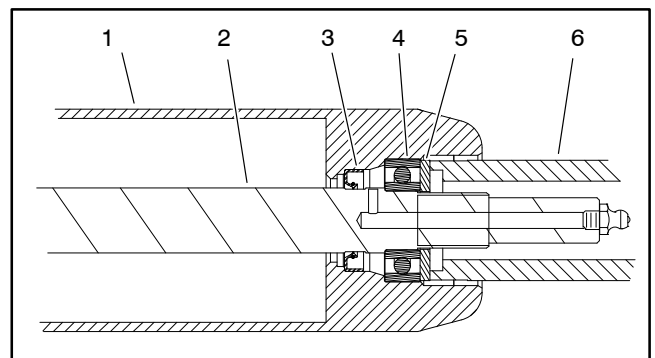

Figure 51
B. Use washer and bearing/outer seal tool (see Special Tools) with a soft face hammer to fully seat bearing (Fig. 51). After bearing installation, make sure that shaft freely rotates and that no binding is detected. If necessary, lightly tap bearing and/or shaft ends to align shaft and bearings. Remove washer from roller.